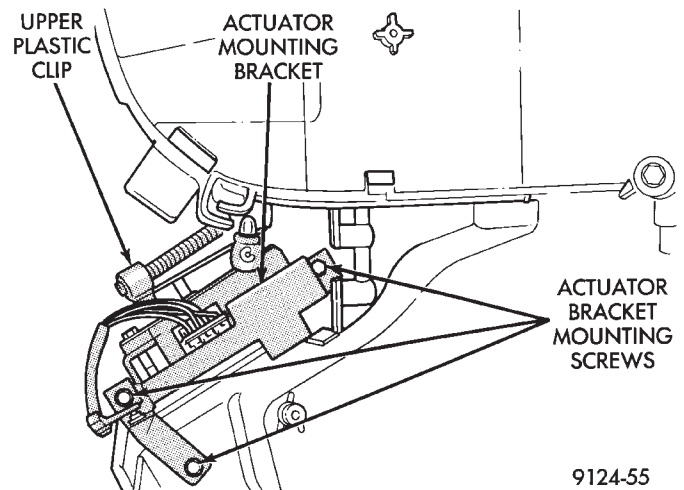

Fig. 5 Actuator Bracket Mounting Screws
- (4) Remove the three actuator bracket mounting screws (Fig. 5).
- (5) Rotate actuator to gain access to upper plastic clip. Pinch and remove the upper plastic clip (Fig. 5) from the actuator arm.
- (6) Remove actuator-to-actuator mounting bracket screws.
- (7) Remove actuator from mounting bracket. Remove from vehicle.